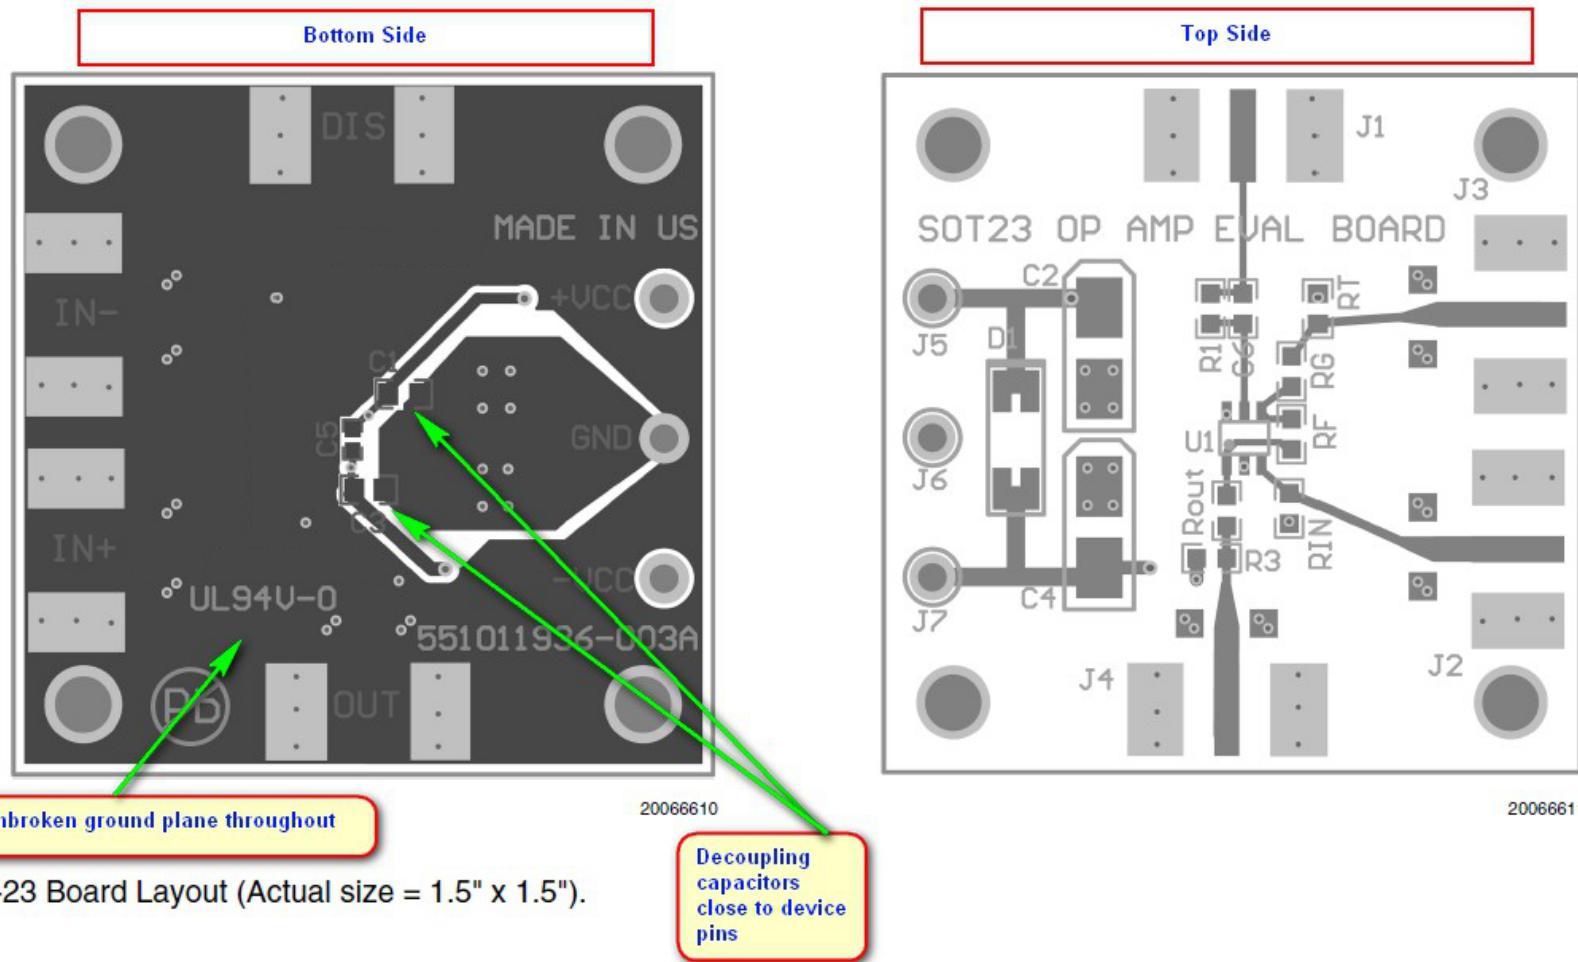

Figure 20. SOT-23 Board Layout Example
1. Power supply bypassing is critical, and will improve stability and eliminate possible output chatter. A decoupling capacitor such as 0.1- μ F ceramic should be placed as close as possible to V^+ pin (and to V_- pin if used with dual supplies) as shown in Figure 20. An additional 2.2- μ F tantalum capacitor may be required for extra noise reduction.
4. Use a PC board with a good, unbroken low inductance ground plane as shown in Figure 20. Make sure ground paths are low-impedance, especially where heavier currents are flowing.